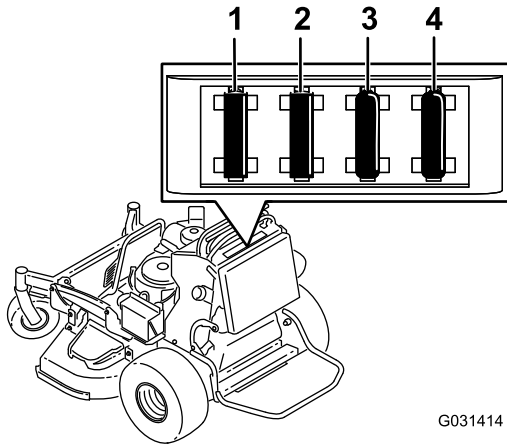

Figure 51
2. Pull out the fuse to remove or replace it (Figure 51).
Note: Ensure that the correct-size fuse is installed Figure 51.